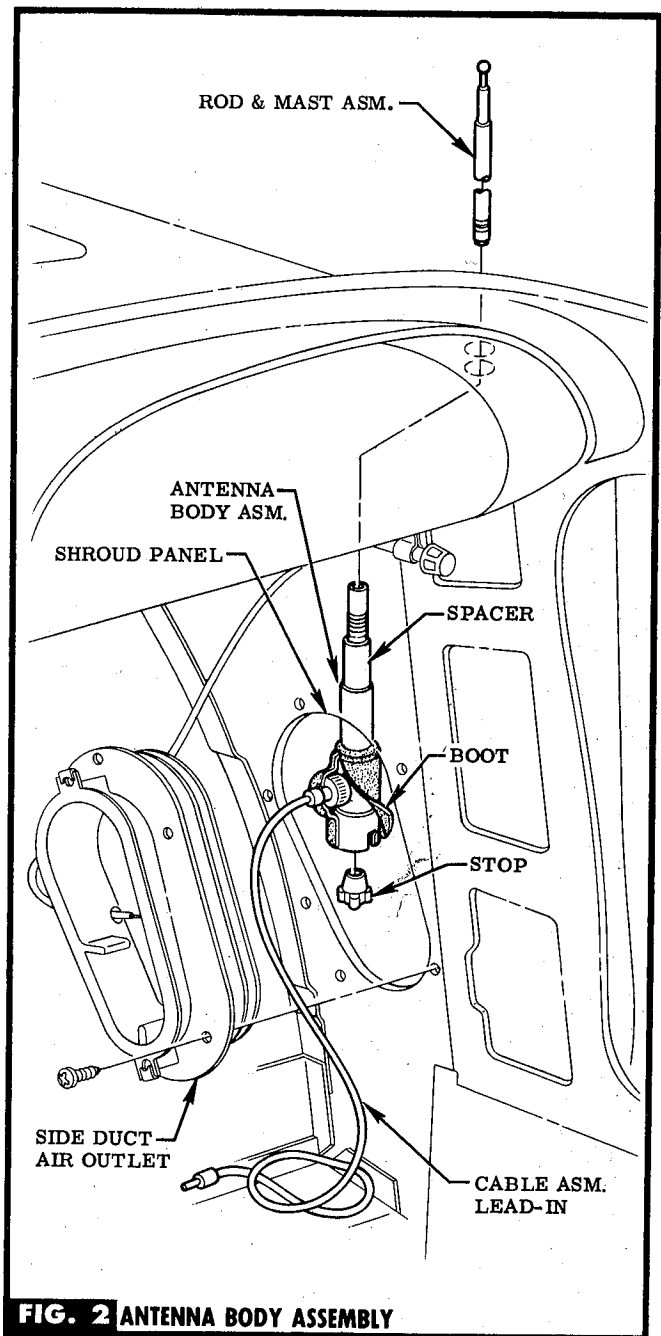

FIG. 2 ANTENNA BODY ASSEMBLY
STEP 3 REMOVE R. H. COWL TRIM PAD. REMOVE SIX SCREWS ATTACHING SIDE DUCT AIR OUTLET & PULL OUT FROM SHROUD PANEL. SAVE ALL PARTS FOR RE-ASSEMBLY. SEE FIG. 2.
BODY IN ACCESS AREA WHEN ASSEMBLING TO ROD & MAST ASM. IN STEP 5. SEE FIG. 2.
STEP 5 EXTEND MAST TO ABOUT A THREE FOOT LENGTH THEN INSERT ROD & MAST, FROM OUTSIDE OF CAR, INTO TOP OF ANTENNA BODY & PUSH THRU. SNAP STOP ONTO END OF ROD. SEE FIG. 2.